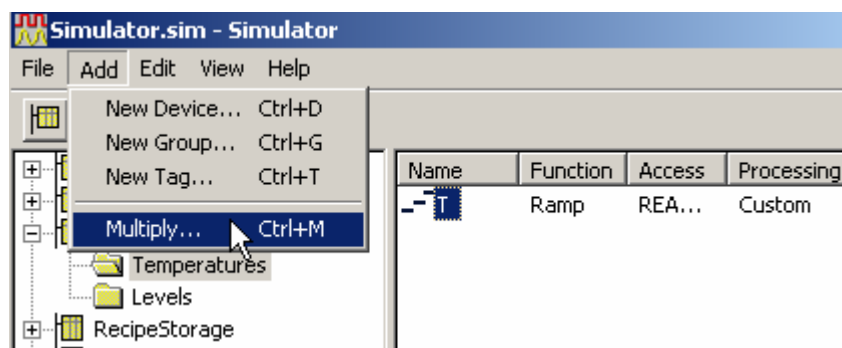

Figure 4.13. Multiplying a Base Tag
3. Next, you will take this base tag and multiply it to create a series of OPC tags. To do this, first select the tag **T** by clicking on it in the right-hand window frame, then choose **Multiply** from the **Add** menu, as shown in **Figure 4.13**.